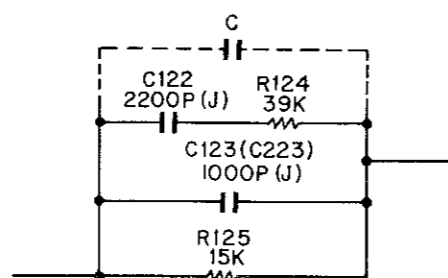

Fig. 7.13
(1) For ZX Tape
- (b) Feed in 10 kHz and 400 Hz (-20 dB) then record and play it back. Check the difference of the levels between 10 kHz and 400 Hz, and mount an additional capacitor in parallel with the C123 (C223) from the dip side of the printed circuit board depending upon the difference of the levels against 400Hz. Refer to Fig. 7.13.